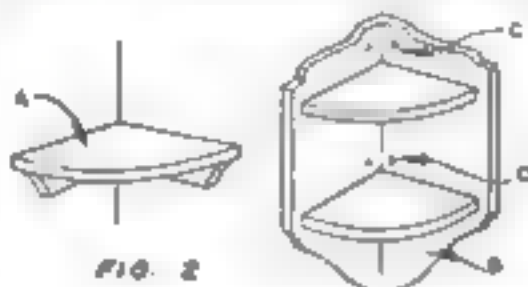

FIG. 2
1. They may be placed upon cleats fastened to the wall by the method just described. This construction is shown at A, Fig. 2. If the cleats do not bear over
2. The "whatnot" form of corner shelves may be made by nailing through the sides into the shelves as at B, Fig. 2, and fastening them in the back corner at C, where the screws can reach the corner studs.